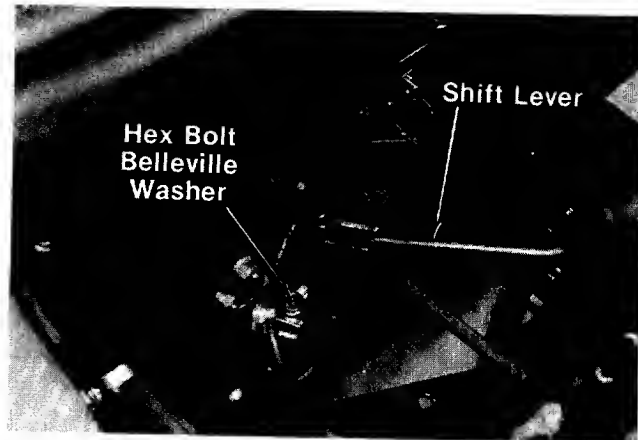

FIGURE 32.
6. Remove the transaxle shift lever by removing the hex bolt and belleville washer. Lift off the special "D" washer. See figure 32.